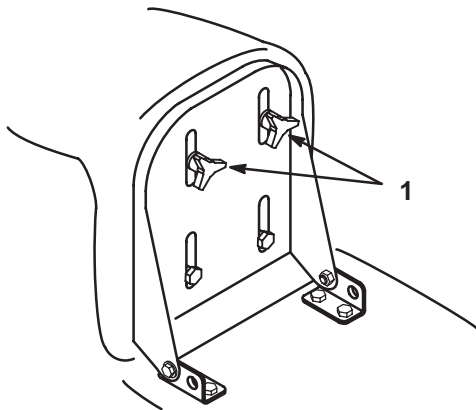

Figure 3
1. Raise the seat and loosen the adjustment knobs (Fig. 3).